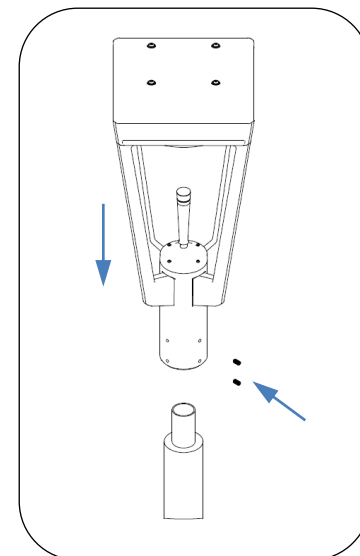

Fig. 3 – Install single luminaire on pole
3. Install single luminaire over tenon mount on pole. Using 5mm hex key, install and tighten all 8 set screws to secure luminaire to tenon, see Fig. 3, level as required. For asymmetric light distribution luminaires, one arm of the luminaire will be clearly marked as 'Front'.